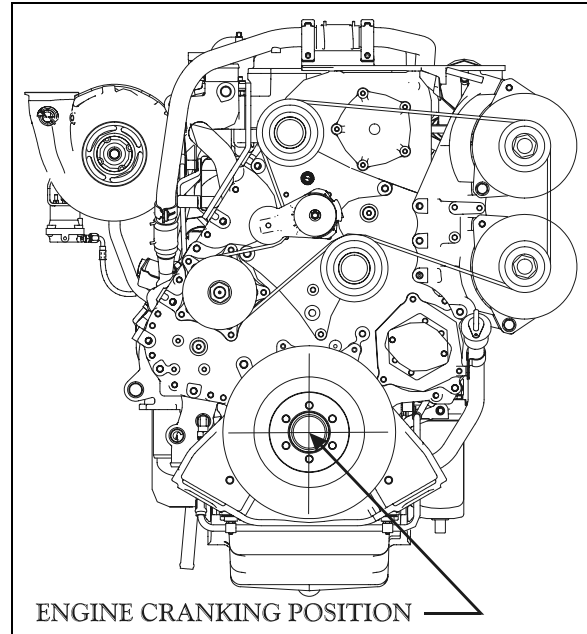

FIGURE 11: ENGINE CRANKING POSITION
14. Remove the access plug from the flywheel housing on the R.H. side below starter. From access plug, remove the 12 converter-to-flexible plate attaching screws. Cranking the engine to gain access to the attaching screws may be done by turning the crankshaft pulley using a suitable adapter (fig. 11).